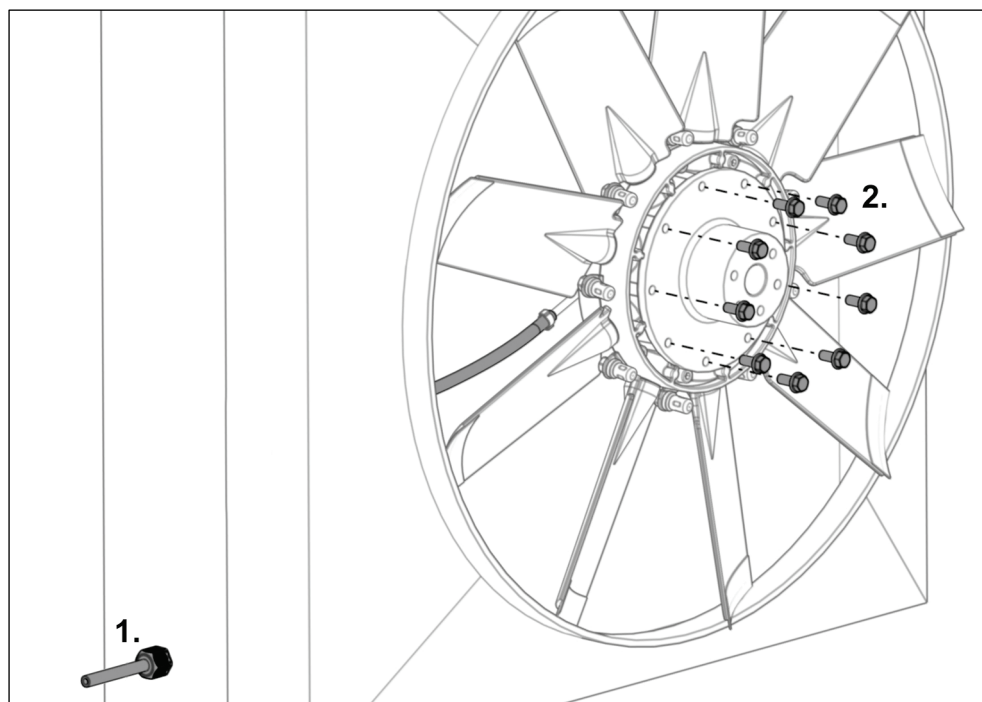

Fig. 30
- 20) Guide the pressure hose through the strain relief (see Fig. 30 step 1).
- 22) Screw in the supplied mounting screws by hand (see Fig. 30 step 2).